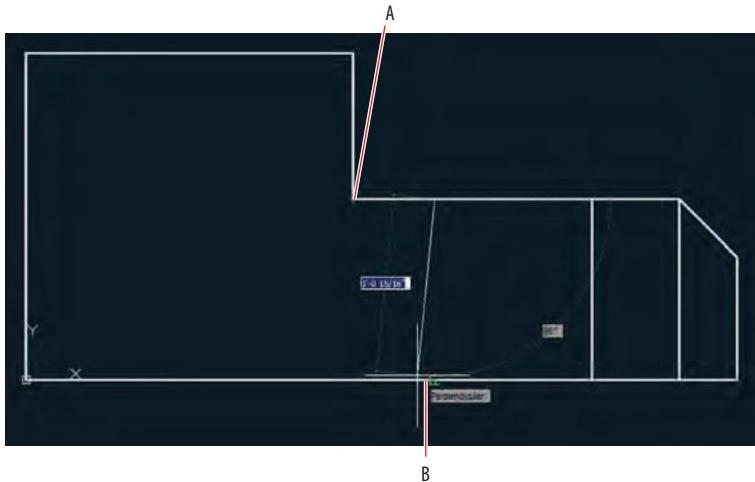

FIGURE 3.14 Drawing a line using the From object snap
9. Type **L** and press Enter. Hold down Shift, right-click to open the Object Snap context menu, and choose Nearest. Object snaps invoked from the context menu override any running object snaps. Click point A, shown in Figure 3.14. Nearest ensures that the new line is attached somewhere along the edge of the horizontal line.
10. Move the cursor close to point B, as shown in Figure 3.14, and click when the perpendicular marker appears. Press Esc to end the **LINE** command.
2. Click point A shown in Figure 3.14. This is the point from which you will specify a displacement. Type **@6<0** (or **@150<0** for metric) to specify the displacement to the first point of the line and press Enter.